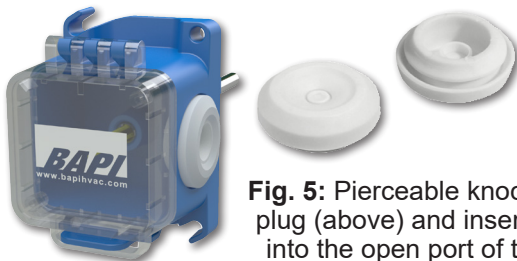

Fig. 5: Pierceable knockout plug (above) and inserted into the open port of the BAPI-Box Crossover.
5. A pierceable knockout plug is available for the open port in the BAPI-Box Crossover enclosure (see Fig. 5). The plug increases the enclosure rating from IP10 to IP44.